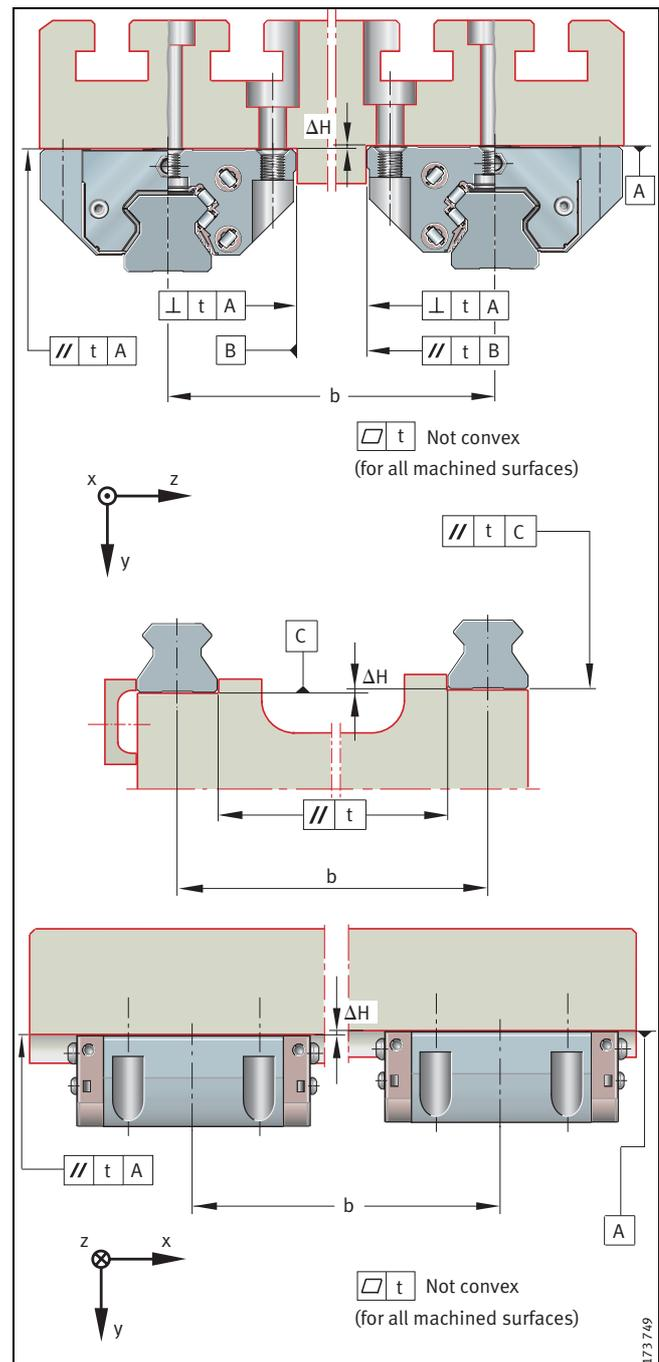

Figure 6 · Tolerances of mounting surfaces and parallelism of mounted guideways
- the tolerances in Figure 6 and Table 5 must be adhered to
The permissible values for ΔH (Figure 6) are given by the formula below. If larger deviations are present, please consult the Schaeffler engineering service.
For guideways arranged parallel to each other, the parallelism value t given in Figure 6 and Table 5 should be adhered to.